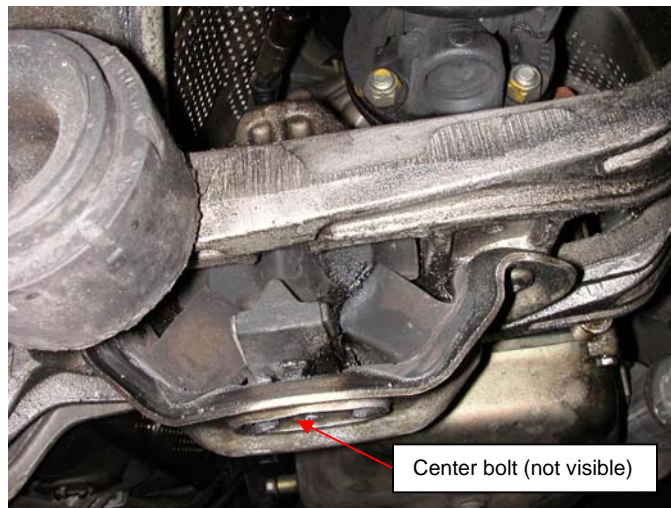

Fig. 6 Transmission support bracket
- b. Photograph and mark the location of the transmission support bracket as it attaches to the frame. This is necessary to ensure that the bracket does not contact the transmission housing during reinstallation, leading to very loud gear and engine noises and elevated blood pressure (guess how I found out). Remove the four star-headed (Torx) bolts securing the mounting bracket to the body using a T40 driver. The bracket will then be free to swing about from the center bolt holding it to the transmission mount (see Fig. 6).